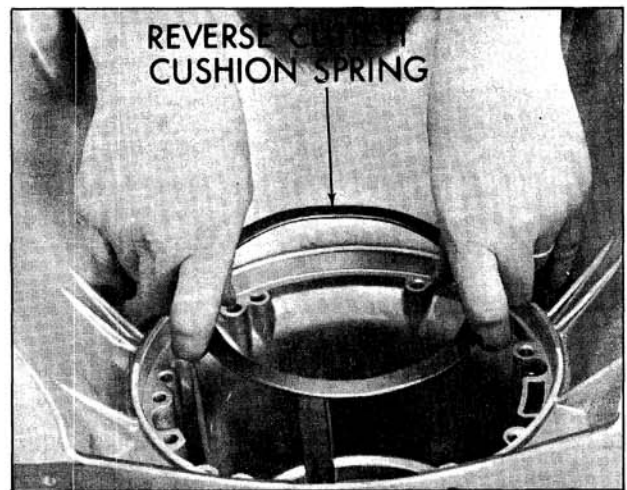

Fig. 6-381 Removing Reverse Clutch Cushion Spring
4. Remove reverse clutch cushion spring. (Fig. 6-381)